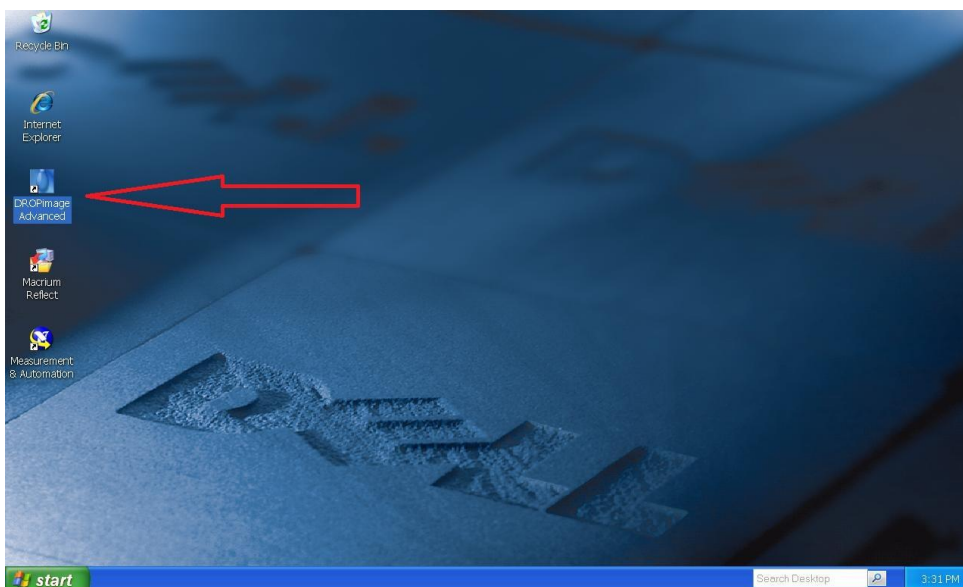
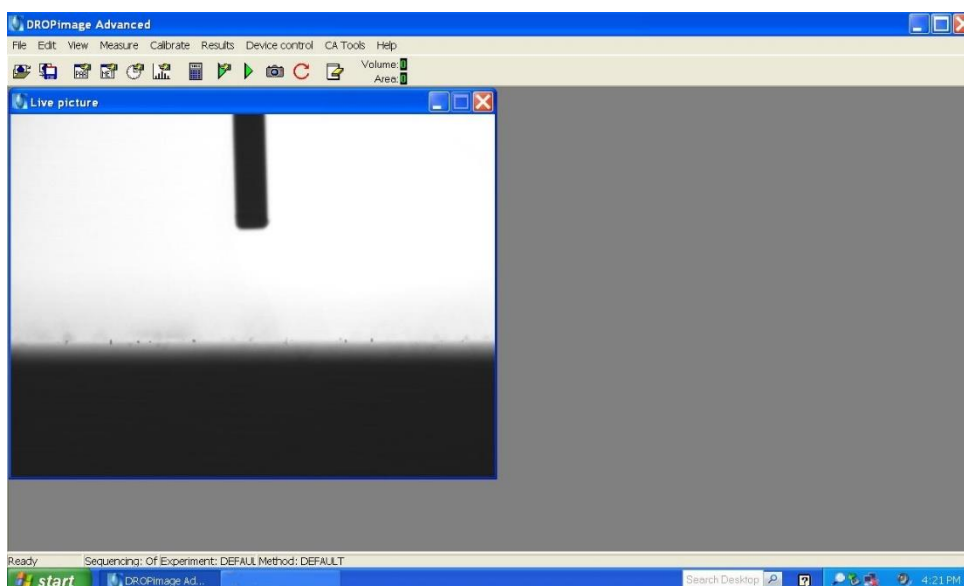

Figure 1 Main Screen
Figure 2 Image from Camera No liquid
5. Start **DropImage Advanced** (Fig. 1) from main screen. The video window shows the image from the camera, Fig. 2. Use the camera icon to save as bmp or gif file. **Restart program to reopen Picture or Video windows.???**